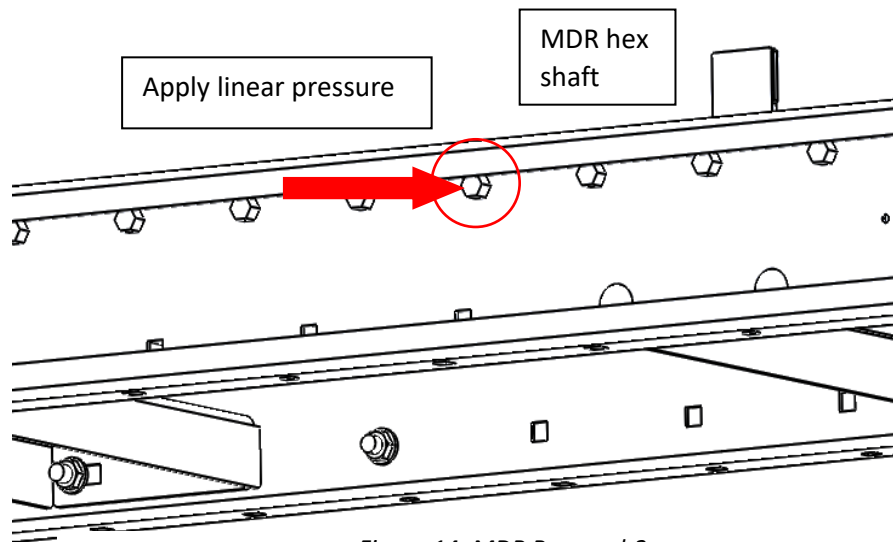

Figure 14: MDR Removal-2
5. Apply pressure on the end of the hex shaft opposite the cable using a small diameter punch or similar tool until the shaft clears the frame. Be careful NOT to apply a side load to the hex shaft. (Refer to Figure 14)
3. Apply pressure on the end of the hex shaft opposite the wiring using a small diameter punch or similar tool until the shaft clears the frame. Be careful NOT to apply a side load to the hex shaft. (Refer to Figure 14)